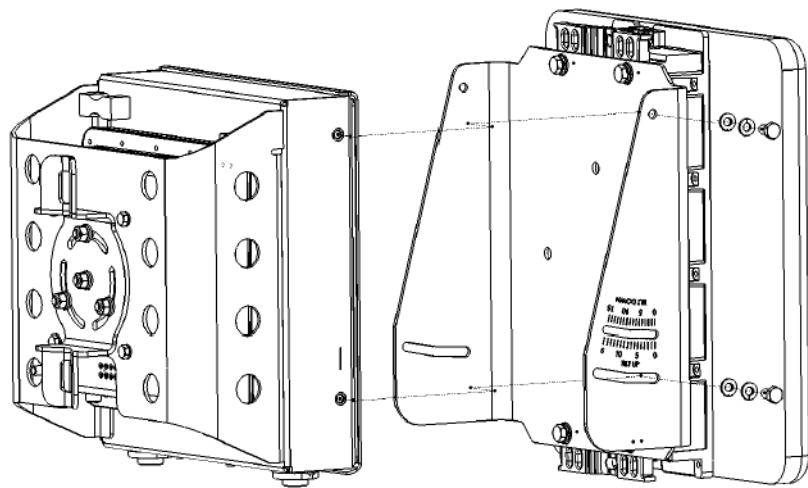

Figure 2-7: Attaching the Mounting Plate to the Wi² Unit
- 2 Using the M6 x 12 hex head screws and the flat washers and spring washers supplied, attach the mounting plate to the Wi² unit as shown in Figure 2-7.